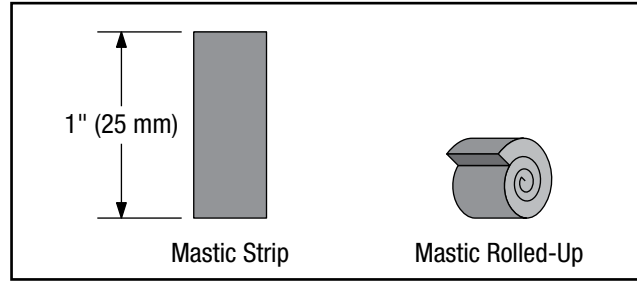
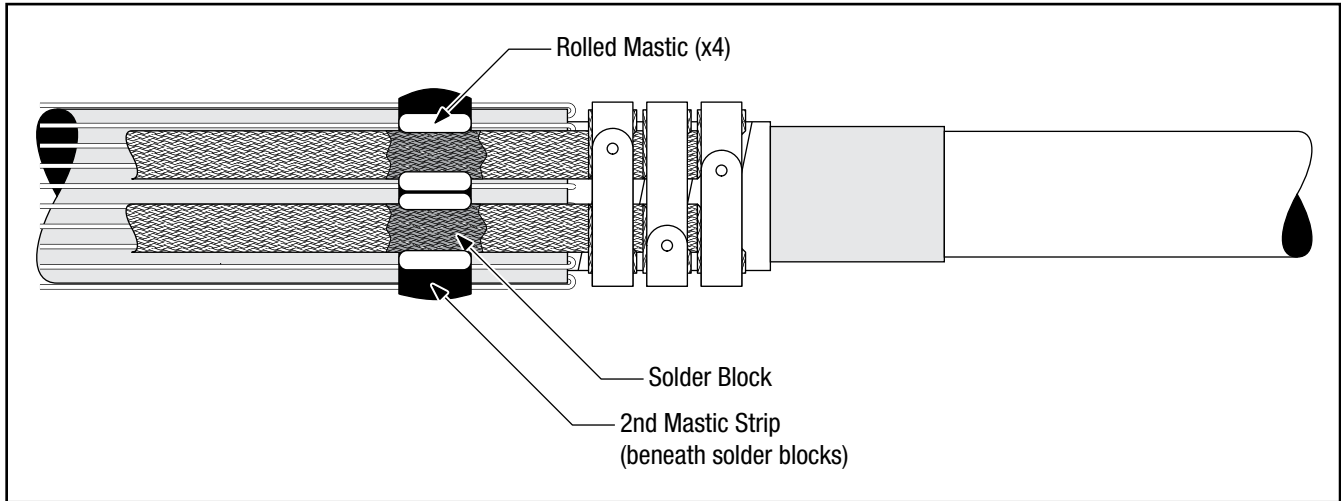

Figure 16
Figure 17
- 4.5 Cut four 1" (25 mm) lengths of 1" (25 mm) wide 3M™ Scotch-Seal™ Mastic Tape 2229. Remove the release liner and roll each mastic strip into a small roll. (*Figure 16*) Press the mastic rolls into place on either side of the ground braid solder blocks. (*Figure 17*)